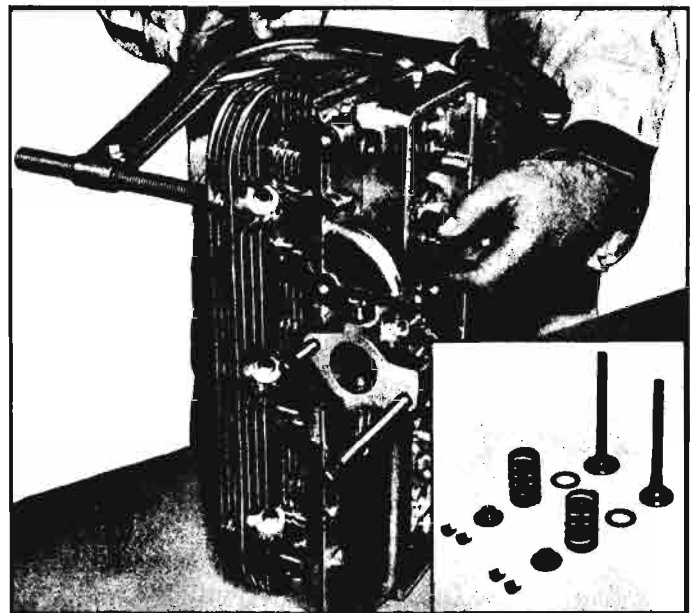

Fig. 6A-62—Valve Assembly
8. Check installed height of the valve springs. Re-seating valves raises the installed height of the valve springs and, if excessive, will have the effect of weak valve springs. Use a narrow, thin scale and measure from the spring seat in the head to the top of the valve spring (fig. 6A-64).